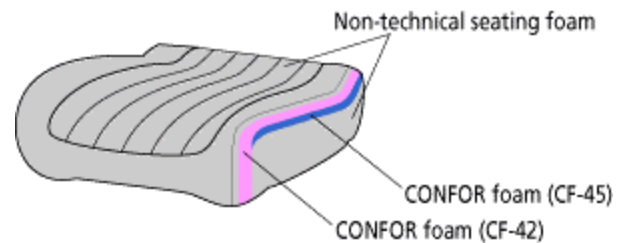

Figure 2: Example of Composite Ergonomic Cushion
With Confor foams, it is possible to achieve numerous ergonomic properties in a design that traditionally would require the use of multiple materials, some of them used in great quantity and at great cost, coupled with structural or mechanical elements. A relatively thin layer of Confor foam used in combination with traditional high resilience (HR) seating foams, can significantly and cost effectively increase comfort levels in most applications (See Figure 2).